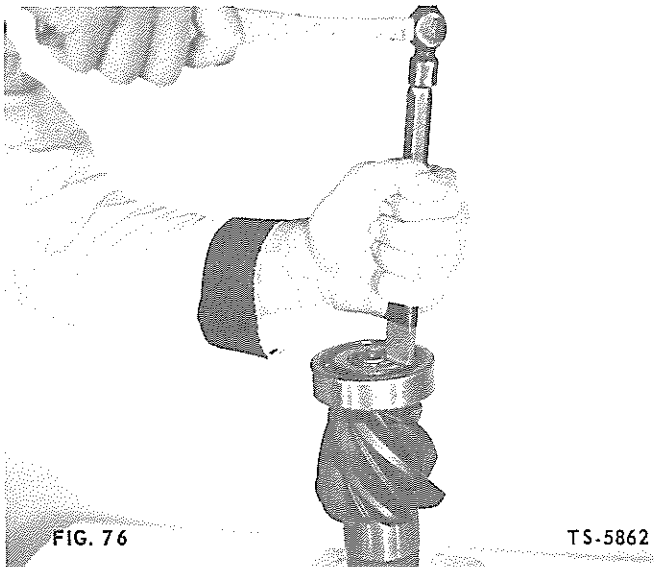

FIG. 76
2. Stake pinion shaft in four places to retain bearing (Fig. 76). Use square end staking tool as shown in Fig. 77.